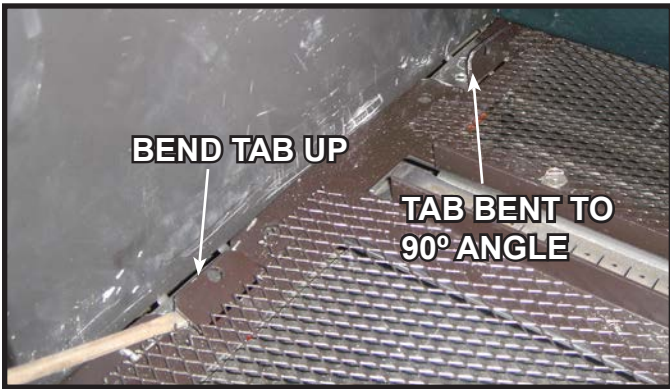

Figure 7. Bend Tabs Up to a 90 Degree Angle.
3. Using a flat blade screwdriver, bend up the tabs located on each side of the basepan to a 90 degree angle. See Figure 7.